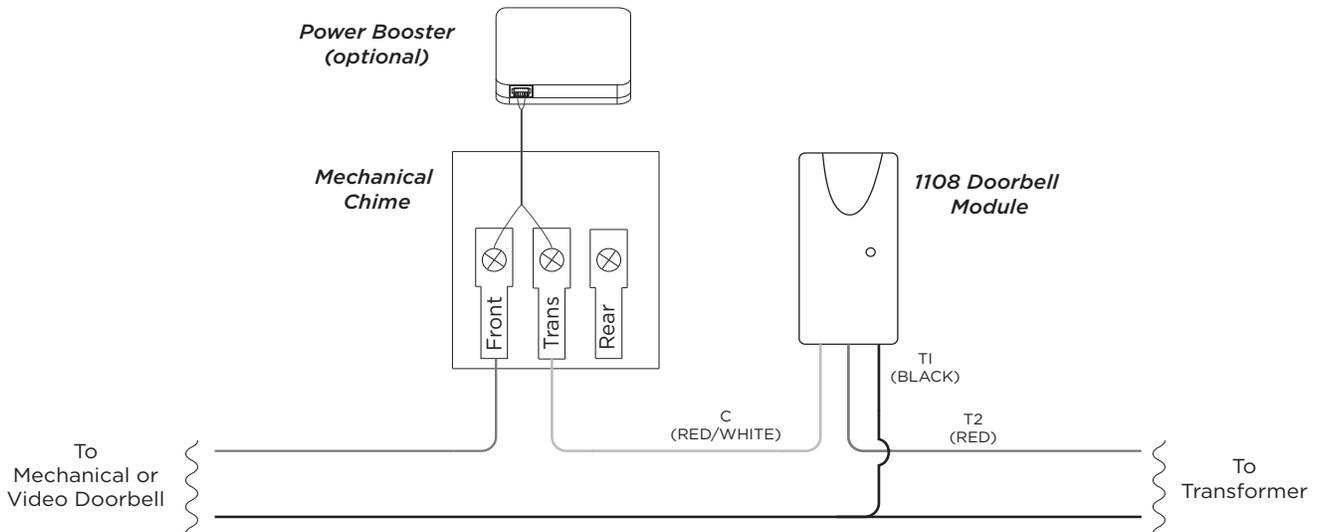

Figure 3: 1108 Wiring with Existing Chime
- For wiring with an existing chime, refer to Figure 3.